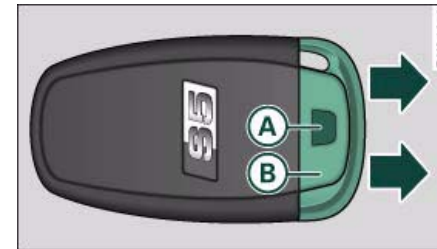
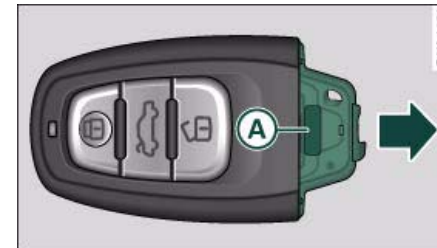

Fig. 29 Remote control key: Removing the emergency key
Fig. 30 Remote control key: Removing the battery carrier
- Press the release button (A) ⇒ *page 39*, fig. 29.
- Pull the emergency key (B) out of the remote control key.
- Press the release catch (A) ⇒ *page 39*, fig. 30 on the battery carrier and at the same time pull the battery carrier out of the remote control key in the direction of the arrow.